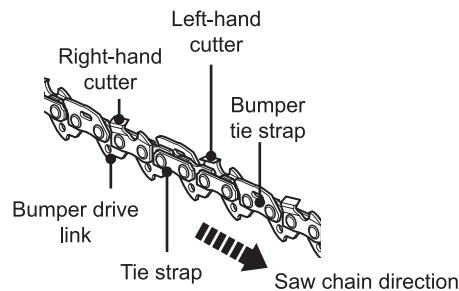

Fig. 41
2. The height difference between the tooth and the ridge is the cutting depth. When sharpening the saw chain (14) you have to consider the following points (Fig. 41).